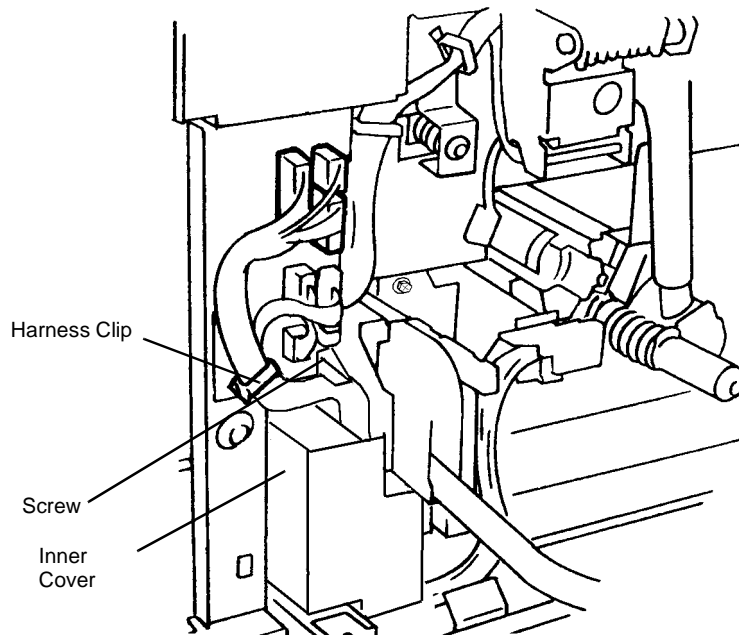

Figure 1 Removing Inner Cover
4. Remove Inner Cover (Figure 1).